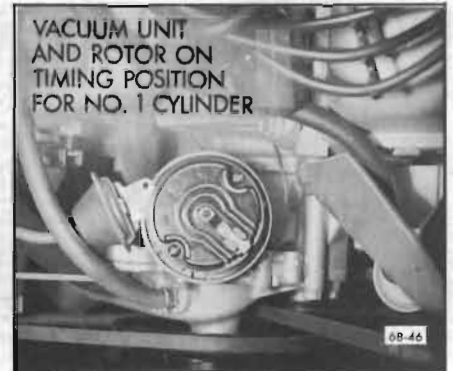

Figure 68-46—Installing Distributor in 300 & 340 Engines
2. Install distributor in engine with rotor in position to fire No. 1 cylinder and with vacuum control in position to connect vacuum hose. See Figure 68-46 or 47. Install distributor clamp and bolt with lock washer, leaving bolt just loose enough to permit movement of distributor with heavy hand pressure.
2. Make a mark on distributor base in line with center of rotor. Then carefully note the direction the vacuum unit points in relation to the engine so that the distributor can be replaced in the exact same position after it is serviced. See Figure 68-46 or 47.